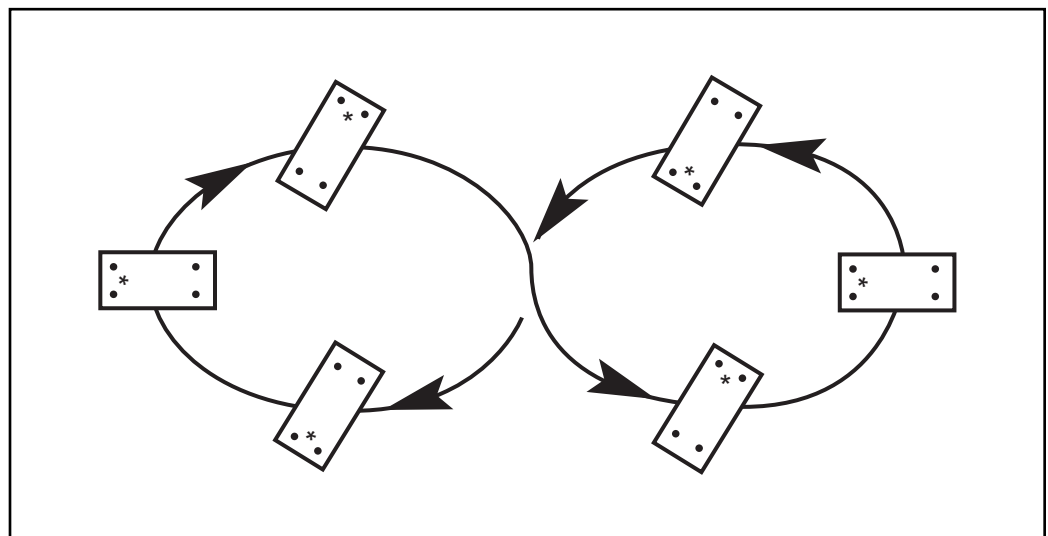
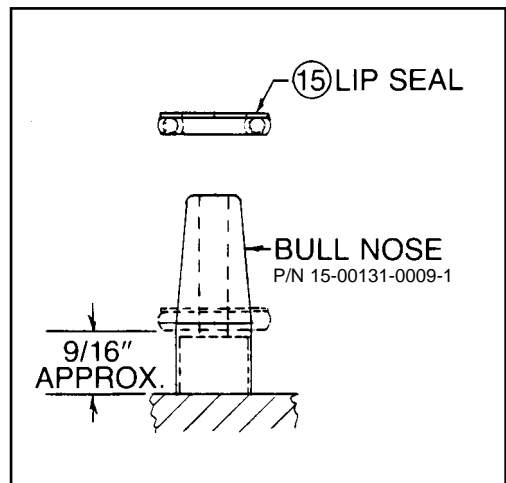

Figure 1 Note: Part should be rotated by quarter turns as it moves through a "Figure 8" pattern.
Figure 8
Place two layers of 400-Grit Emery Cloth on a lapping block or plate—a granite flat is suitable. Apply light pressure to the component and turn it in a "Figure 8" pattern (as shown in *Figure 1*) approximately 10 times until a smooth finish appears. Components that are commonly lapped are the sides of metering gears and the inside faces of front, rear and center plates. The components are now ready to be cleaned. An ultrasonic cleaner with a safe industrial solvent (Nu solution) is preferred, but you may also use a large container filled with about four inches of solution.
- 13) Turn the pump over (so the Drive Shaft is facing upward) and clamp on edges of Rear Side Plate (3) in vise.
- 14) Use of a Zenith® Lip Seal Installation Guide (Bullnose) is recommended to prevent seal damage. Place a new Lip Seal (15) over the Bullnose with spring-loaded open end facing down and push down firmly to slightly expand Lip Seal inside diameter. See *Figure 8*.